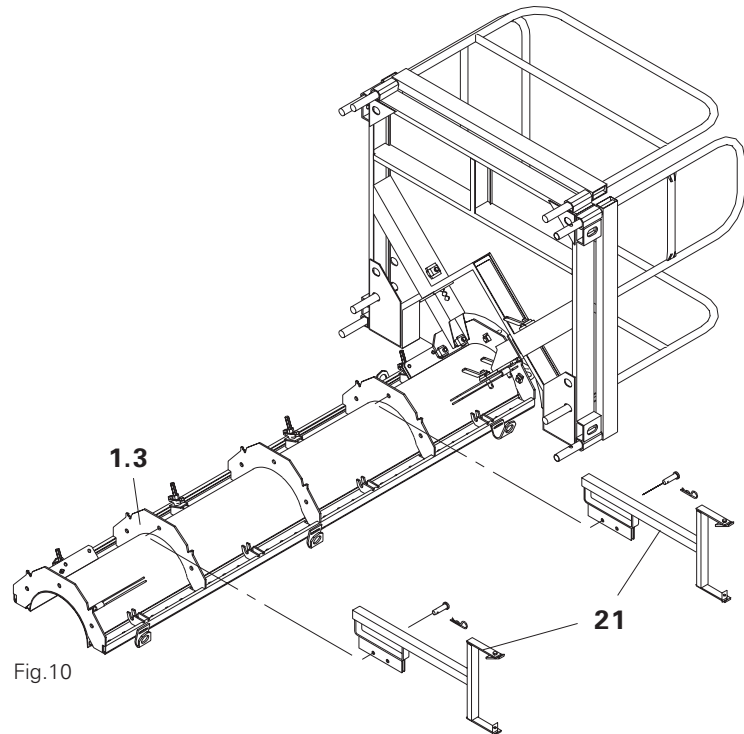

Fig.10
1. Mount ladder connections **21** with bolts and cotter pins on the formwork flange **1.3**. Fig. 10